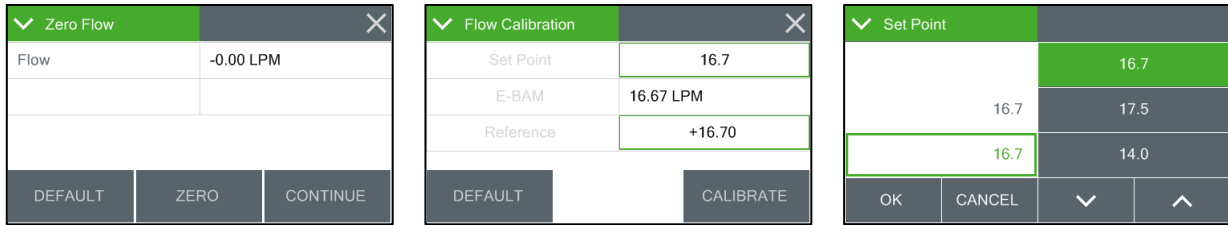

Figure 5-10 Flow Calibration Screens
12. Return to the TEST menu and go to the Flow Calibration screen shown in Figure 5-10.